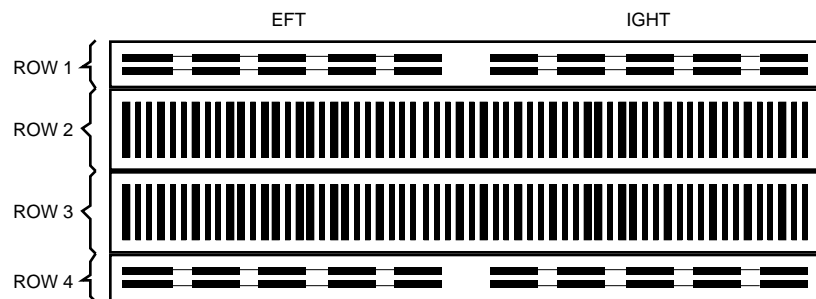

Figure 8. Protoboard layout
1. Insert resistors R1 and R2 into your protoboard so that one end of each resistor is in the row closest to the red line at the edge of the protoboard. In order to avoid a short circuit, it is a good idea to skip at least 10 holes along the red line between the ends of the resistors. Place the other end of each resistor in one of the vertically connected columns in row 2. Please refer to Figure 8 for protoboard layout description.